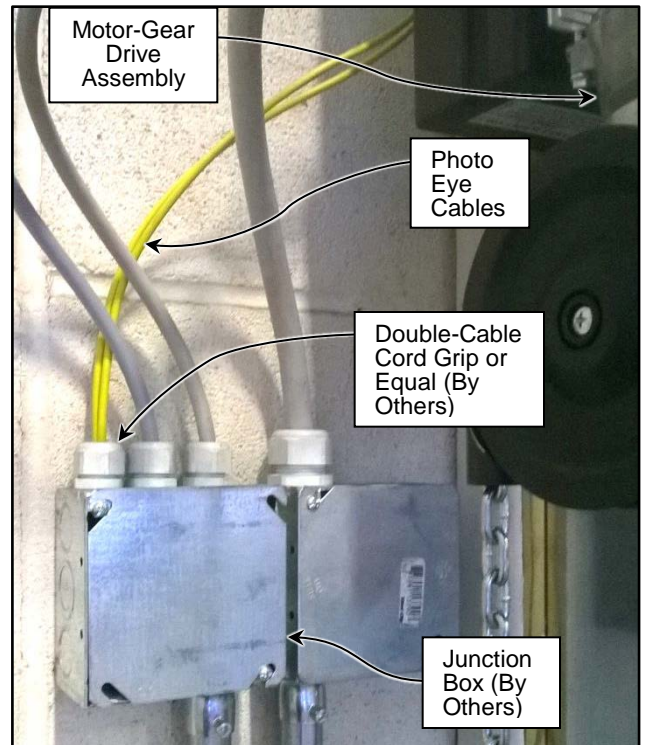

Figure 81
6. Continue routing this cable through to the drive side's side column assembly and over to the door junction box as shown. This should be located in the proximity behind the motor assembly on the drive side. (See Figure 81)
7. Remove the junction box cover and save the hardware for later use. Pass the cable through the double-cable cord grip on the side of the junction box. Do not tighten the cord grip at this time. (See Figure 81)
8. Route the drive side photo eye cable in the same fashion up and out the lower track assembly at the top. Also route it to the same junction box as shown. (See Figure 81)